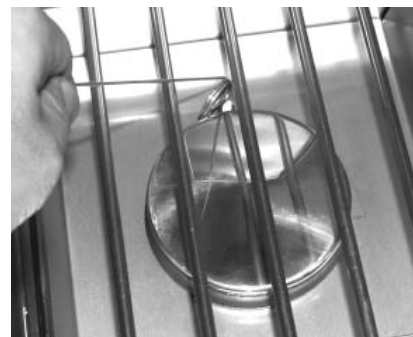

Fig. 21-2 Manual lighting
2. Insert either a burning long-barrel butane lighter, a burning long-stem match, or a burning match held by a wire extension holder through the cooking grid opening to the burner (Fig. 21-2). Hold the flame against the edge of the burner.
4. If the burner does not light within five (5) seconds of turning the control knob, **immediately depress the knob and turn the valve to OFF**. **WAIT FIVE (5) MINUTES** before repeating steps 2 through 4 of the MANUAL LIGHTING instructions.